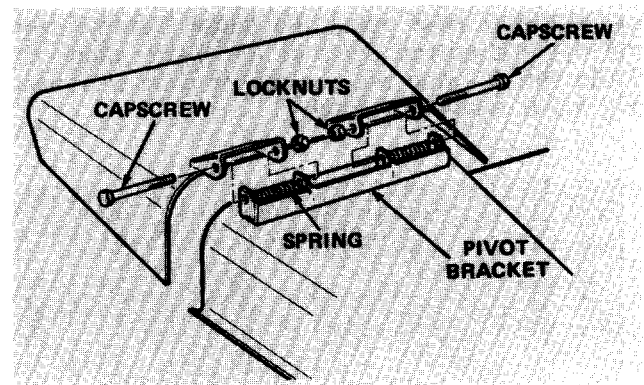

Figure 18
1. Remove two capscrews, locknuts and springs securing deflector mounts to pivot brackets (Fig. 18).
2. To remove the pivot brackets, remove carriage bolts, lockwashers and nuts (Fig. 18).